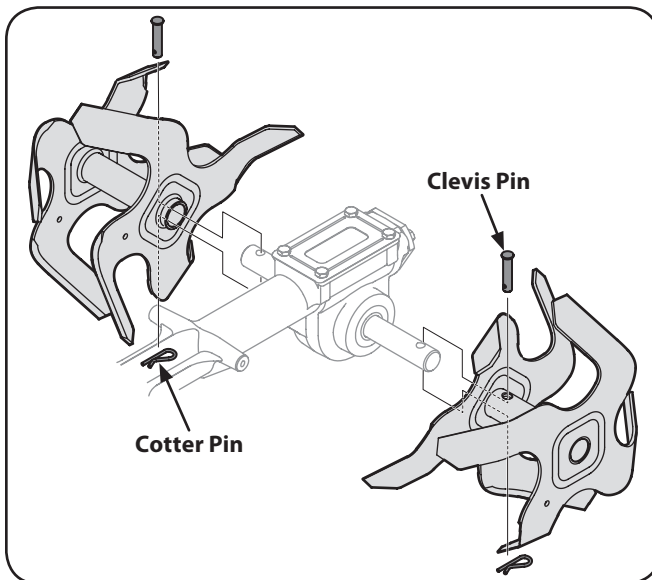

Figure 7-4
3. To remove a tine assembly, simply remove the cotter pin securing the clevis pin as seen in Figure 7-4. Remove the clevis pin and slide the assembly to the outside of the unit and off of the tine shaft.